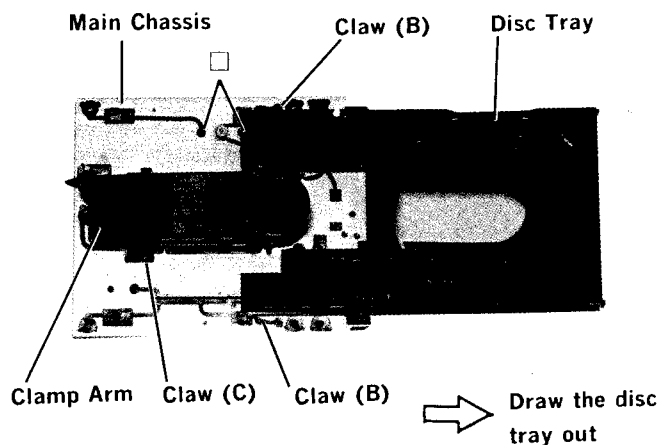

Figure 14 <14図>
- (3) Spread two claws (B) toward outside at the both sides of the disc tray and draw out the disc tray as shown in Figure 14.
- (2) After pulling out the disc tray forward, remove the clamp arm by pressing one claw (C) as shown in Figure 14.
(1) Remove one belt and two screws marked "□" as shown in Figure 14.